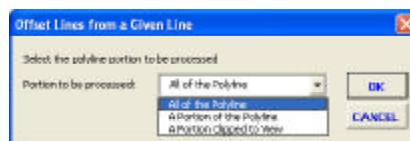

Figure 6
- B. **Polyline**, the option of selecting *All of the Polyline*, *A Portion of the Polyline*, or *A Portion Clipped to the View* is offered, see Figure 6.